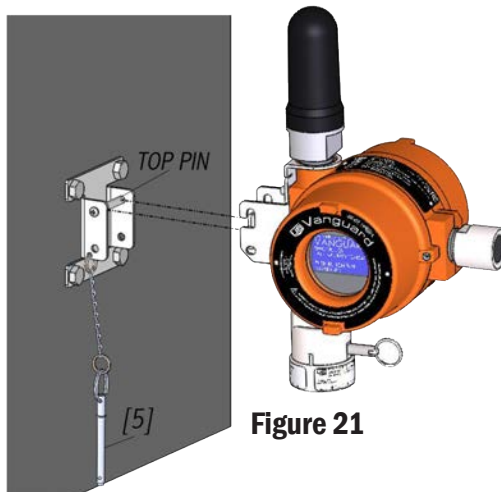

Figure 21
3. Mount device by hooking onto top pin of mounting bracket plate (see Figure 21).